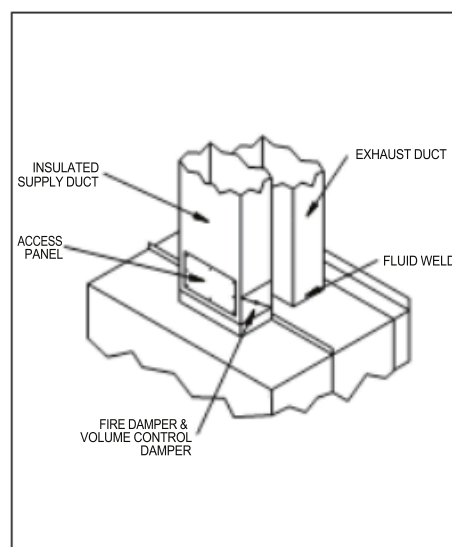

FIGURE 4
9. Provide a removable service door in supply duct near damper (See Fig. 4).